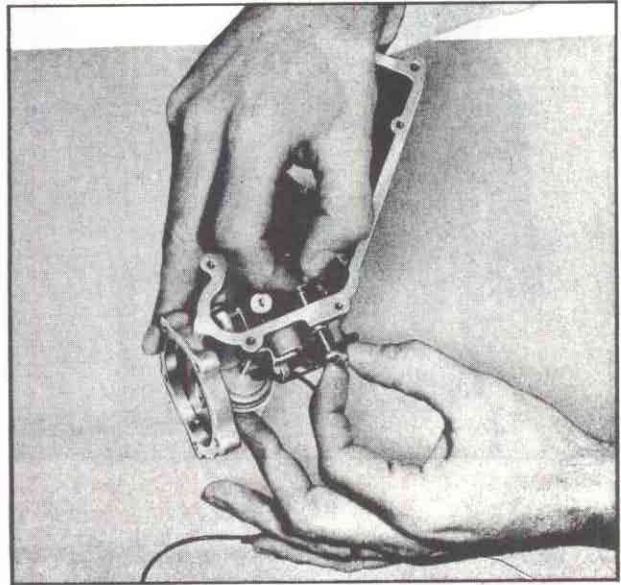

Figure 43
- Position the ratio lever in its approximate position and install the enrichment lever and shaft from the outside (fig. 43). Tighten